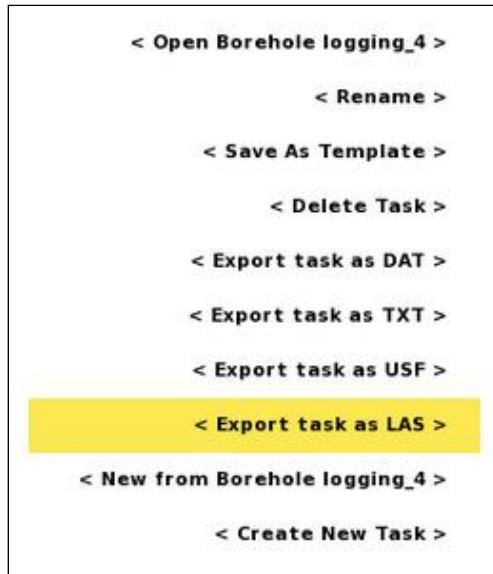

Figure 87 Task options menu
- Highlight <Export task as LAS> (Figure 87)